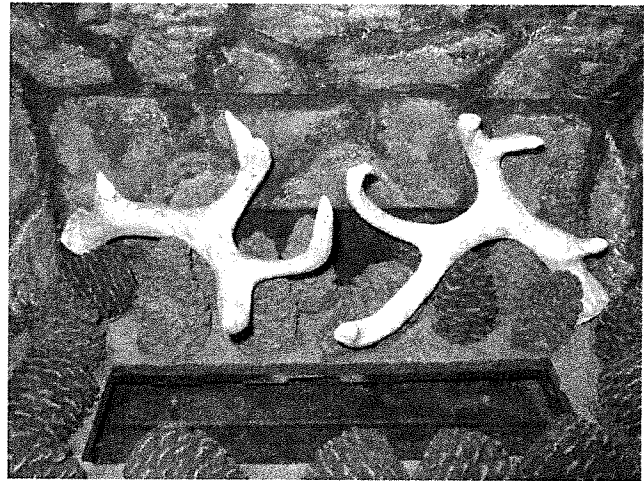

Figure 6.26. Rear antler placement.
3. Place the right and left antlers over the pine cones as indicated in figs. 6.26, 6.27.